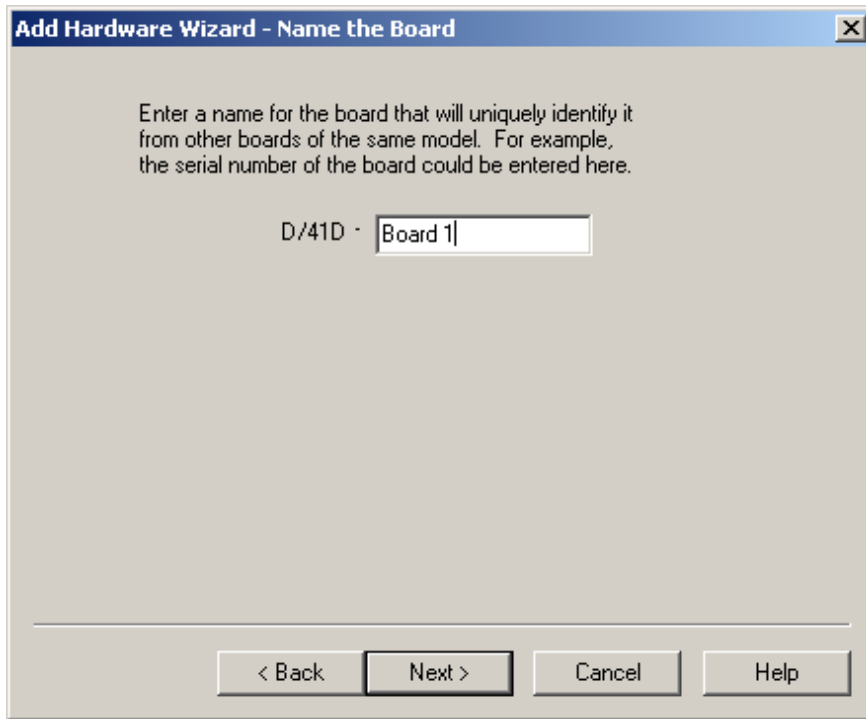

Figure 10. Add Hardware Wizard Step 2
3. At the second **Add Hardware** screen (Figure 10), enter a unique identifier for the board. This identifier will appear with the board name on the DCM Main Window.